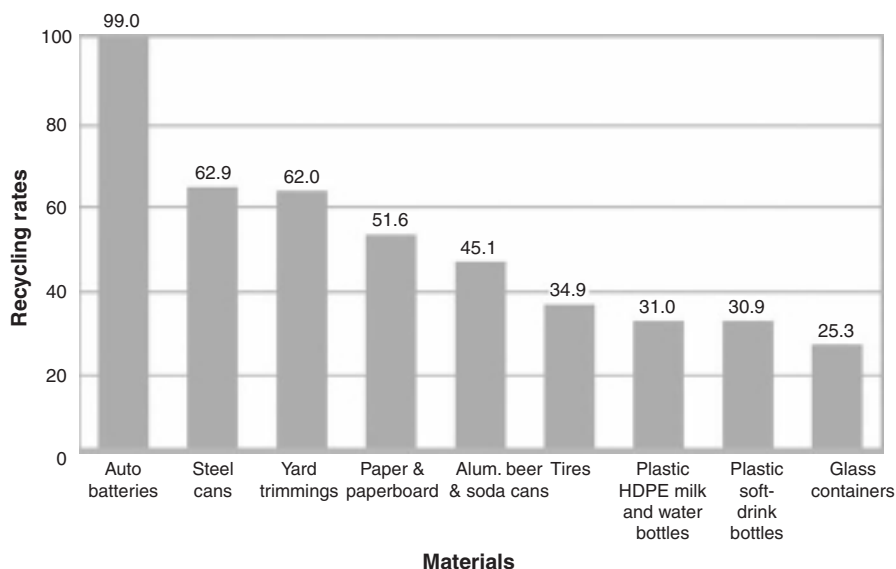

Figure 11.5
Recycling may be lower on the WMH than P² or reuse (and remanufacturing), but it is vital. Its environmental benefits include saving resources, using less energy, and producing less pollution than making a product from virgin resources.²⁰ Recycling also provides jobs. About 8500 US curbside recycling programs existed in 2005. These serve over half the population, and 84% of US cities. Recyclables could be dropped off at 12 000 other sites. Materials collected include paper, steel (tin) and aluminum cans, glass containers, plastic containers (especially #1 and #2) and waste oil (**Figure 11.5**). Although the US recycling rate increased sharply in the years before 2000, it has since almost leveled off and in 2007 was only 32.5%. However, some cities, San Francisco is one, has a 69% recycling rate; this city does not ask citizens to separate recyclables, but collects them in a single stream which are later sorted in a facility that combines machine and human separators. One way the city
Also see Figure 11.5 and see Wastes quick finder, A-Z topics. *US EPA*. <http://www.epa.gov/epawaste/index.htm>
- **Plastics**²⁵ The world produces 250 billion pounds (~113 billion kg) of plastic pellets a year. It is from these that all plastic products or plastic composite products are made from soft-drink bottles to medical equipment or cars. Plastic discards in US MSW were less than 1% by weight in 1960, but by 2006 they were 11.7%. See Box 11.3. Types of plastics included 14 million tons (12.7 million tonnes) as containers and packaging, over 6 million tons (5.4 million tonnes) as nondurable goods, and about 9 million tons (8.2 million tonnes) as durable goods. In the 11 US states in 2008 that charged deposits on beverage containers – plastic bottles and aluminum cans – recycling rates are higher than in states without deposits. Deposits are returned when the bottles are returned.²⁶ In states with deposits, more people save containers to get their money back; others add to their incomes by collecting plastic bottles and aluminum cans discarded by others. Some of the 11 states are working to increase the deposit charged; yet other states are introducing bills to start charging deposits. The average rate of recycling plastic bottles remains low (Figure 11.5). Only about 4% of plastics in the MSW stream are recycled; however, the figure for two specific plastics is higher. The rate for polyethylene terephthalate (PET) soft-drink bottles was 31% in 2007, and recovery of HDPE milk and water bottles about 31%. Recycling the PET used to make soft-drink bottles uses 47% less energy than making it from raw materials. ■ Recycling plastics poses challenges. One is collecting and separating multiple types of plastics. Another is recovering plastics from products more complicated than plastic bottles or other simple plastic products. An instance is the tens of millions of plastic casings on computers that are discarded in increasing quantities. It's even more difficult to recover plastic from composite products where plastic is only part of the composition. ■ However, once discarded plastic has been collected and sorted, it is valuable and goes into products such as TyvekTM (disposable medical suits and insulation), fleece garments, plastic lumber, and water-repellent coatings for shipping boxes, and asphalt too. Compared to other products, plastics are often more durable, perform better, or weigh less than counterparts made from other materials. For example, plastic lumber can last much longer than real wood. Although valuable, businesses often cannot be assured of a dependable supply of used plastics. Moreover, the price that plastic recyclers pay varies with the price of oil. Most common plastics are thermoplastics; that is, they can be melted down and reshaped into new plastic products.